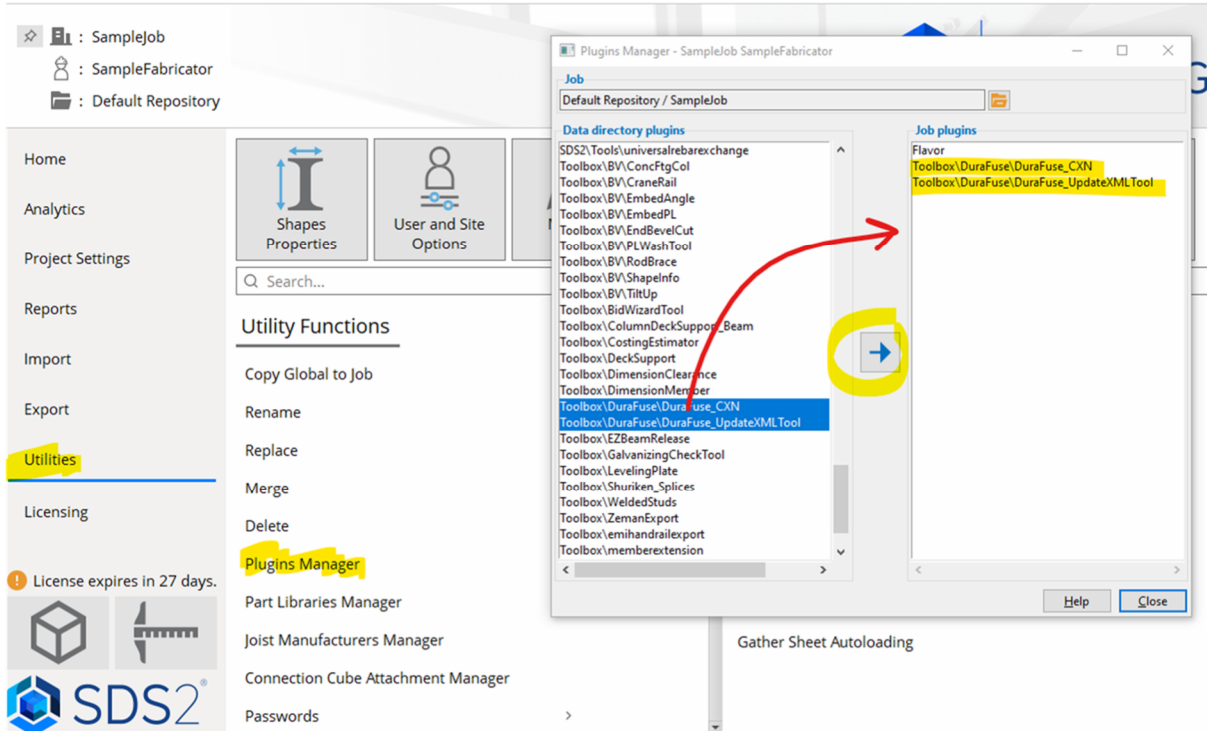

Figure 3-3. Plugins Manager
- 1) On the main SDS2 screen select **Utilities – Plugins Manager** (Figure 3-3).